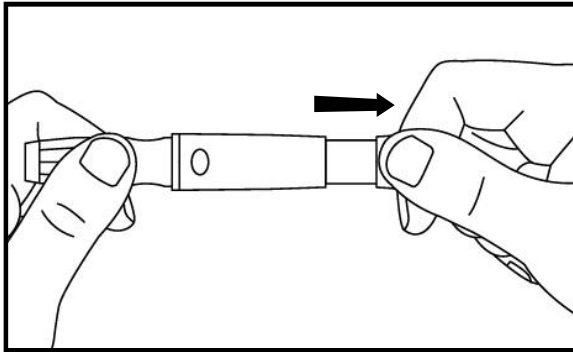

Fig. 27
Step 6: Pull the cocking barrel back to set the lancing device. A click may be heard. The device is now loaded and ready for obtaining a drop of fingertip blood.(Ref Fig. 27)